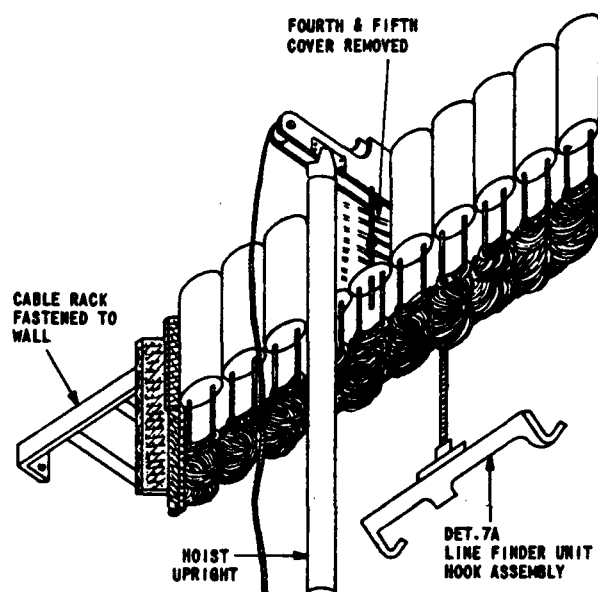

FIG. 11 R-3015 HOIST SET IN A PBX OFFICE
- 6.12 When hoisting line finder units on double sided frames, such as in PBX offices and the selector shelves have been mounted, the covers from switches 4 and 5 of the selector should be removed to provide clearance for the upright of the R-3015 Hoist. See Figure 11. When 570-type keys are mounted on switches for units used on double-sided frames, it may be necessary to remove a switch so that the R-3015 Hoist will butt up against the cable rack as shown in Figure 3.